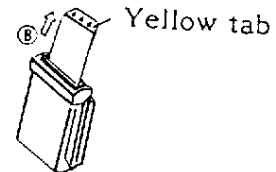

Fig. 9-5
- b. After the white tab is pulled out, a yellow tab will appear. Slowly pull the yellow tab straight out in a single sweeping motion without stopping midway (Fig. 9-5).